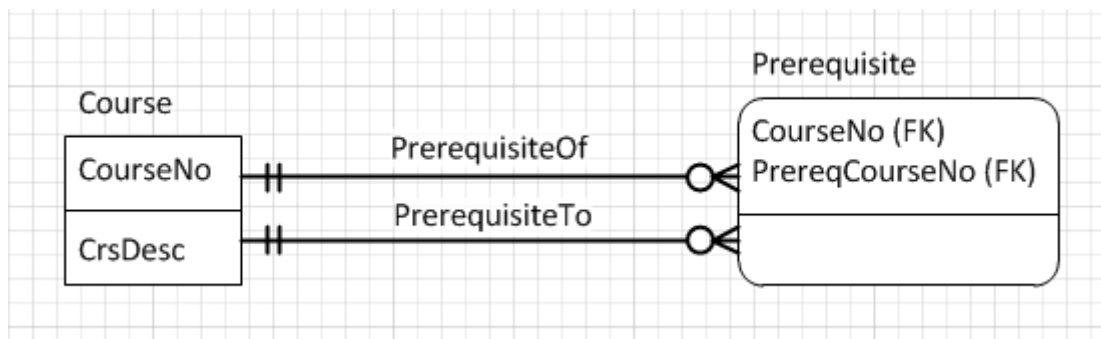

Figure 51: Indirect Representation of an M-N Relationship
- View the Relationships: Close the Database Properties window to view the relationships. To ensure that you have properly created the relationships, you should view the foreign key. In the **Table** area of the Database Document Options window (**Database** → **Display Options...**), check the “Foreign keys” display option. Figure 51 shows the resulting ERD.